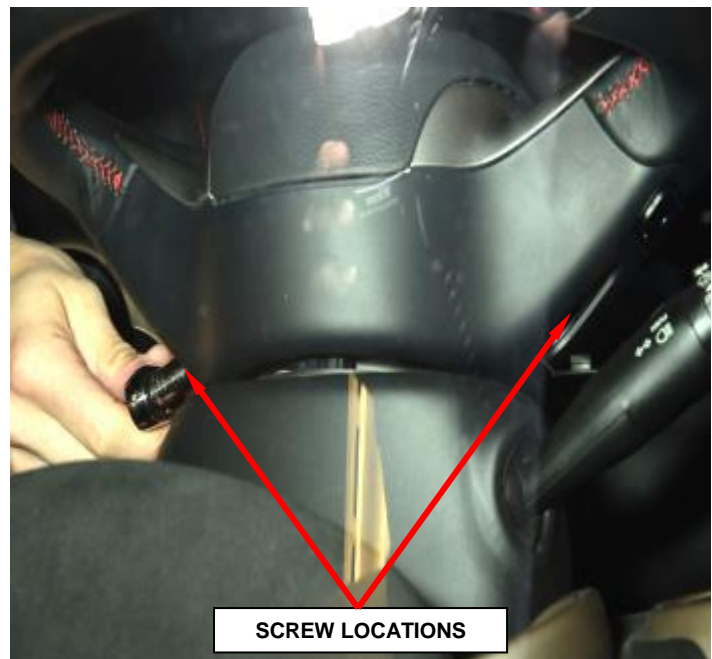

Figure 1 – Driver Airbag Screws
3. Working through the access holes in each side of the steering wheel rear trim cover, remove and save the two screws that secure the DAB to the steering wheel armature (Figure 1).
36. Place driver airbag into position and install two mounting screws. Tighten to 105 in. lbs. (12 N·m) (Figure 1).